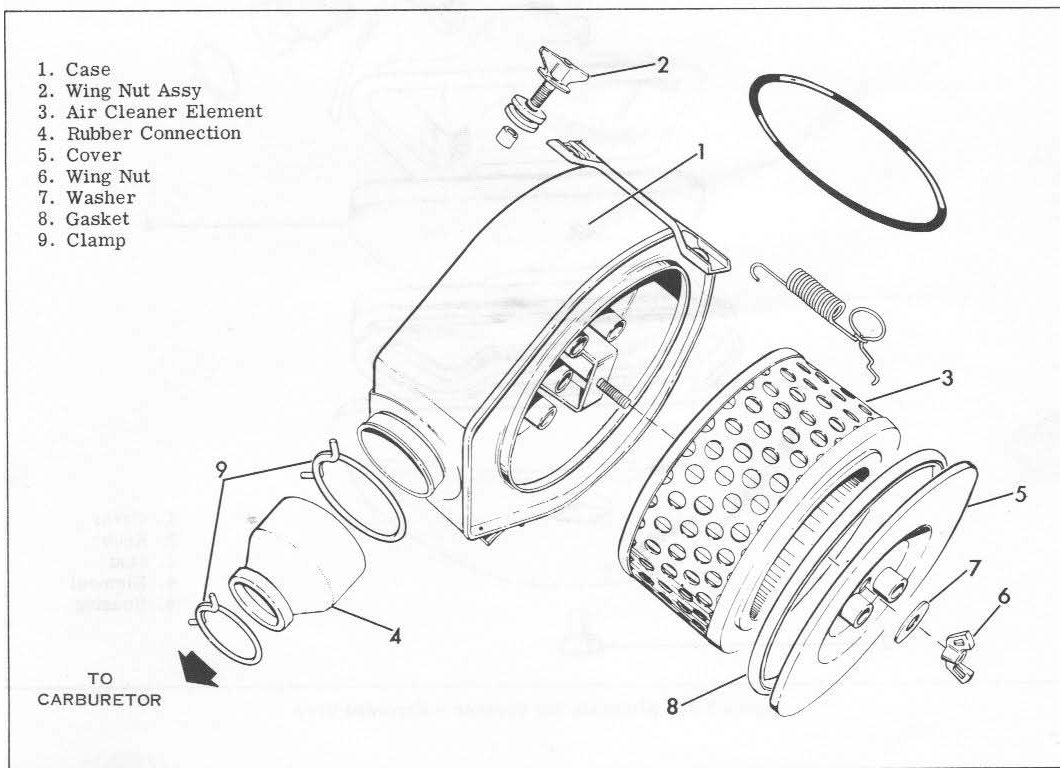

Figure 3.42. Air Cleaner - Exploded View
Refer to Figure 3.42. The air cleaner element is contained in removable metal case (1) located under seat. It is a reversed flow type with air flow from inside to outside. The assembly is held in place either by two wing nuts (2) or a spring. Built into case is a shield which acts as a silencer to eliminate intake noise. The air cleaner element (3) is a dry, corrugated type.